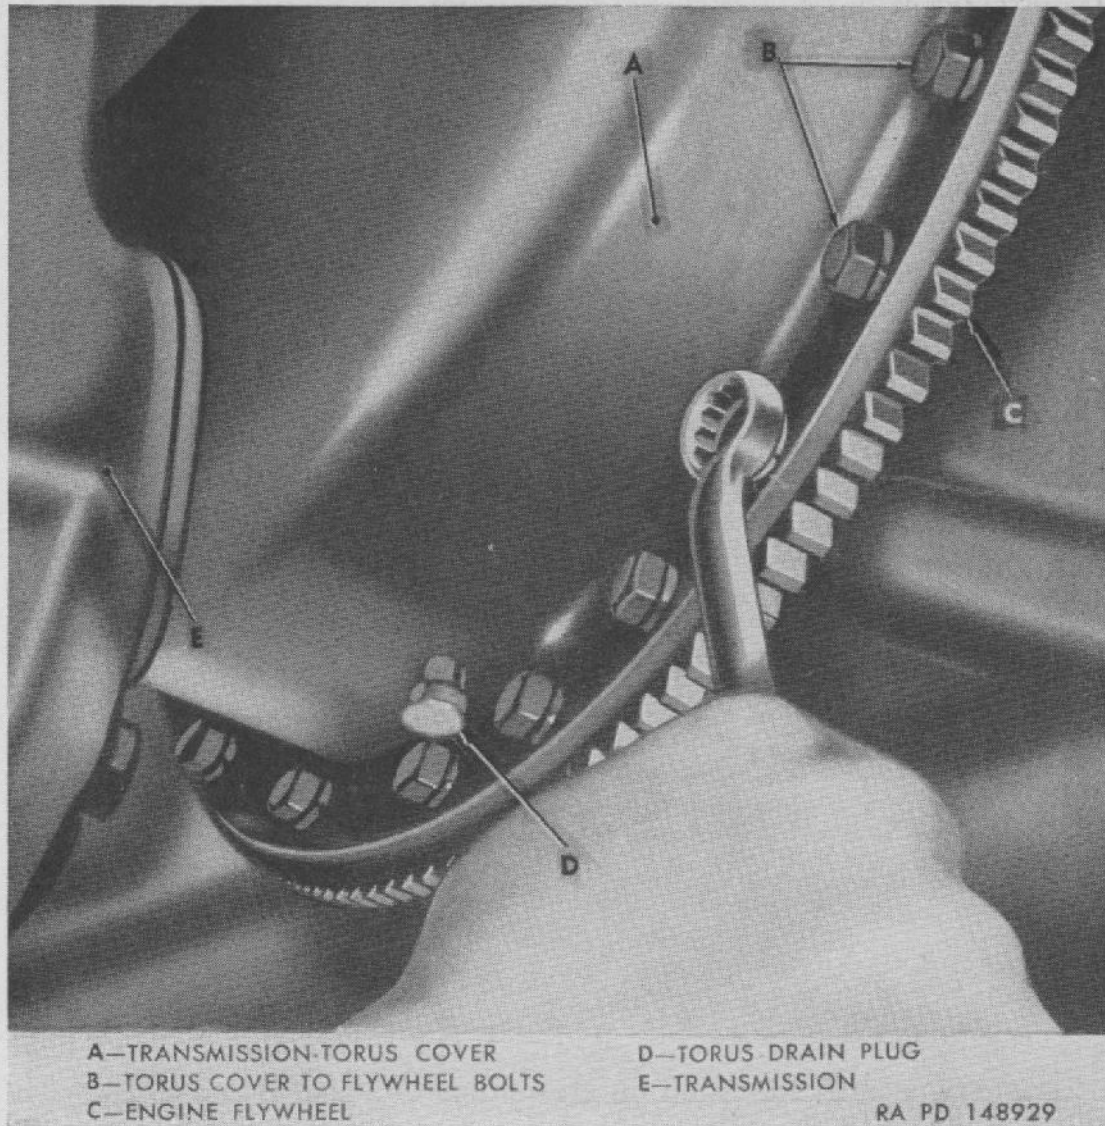

Figure 105. Removing torus cover bolts.
- (2) *Drain transmission oil.* Drain oil from transmission as instructed in paragraph 59f, using suitable receptacle to catch oil at each drain point.
- (3) *Remove torus cover bolts.* Using wrench as shown in figure 105, remove torus-cover-to-flywheel bolts.
- (4) *Remove flywheel housing bolts.* Use either a suitable transmission jack with saddle or an overhead support to